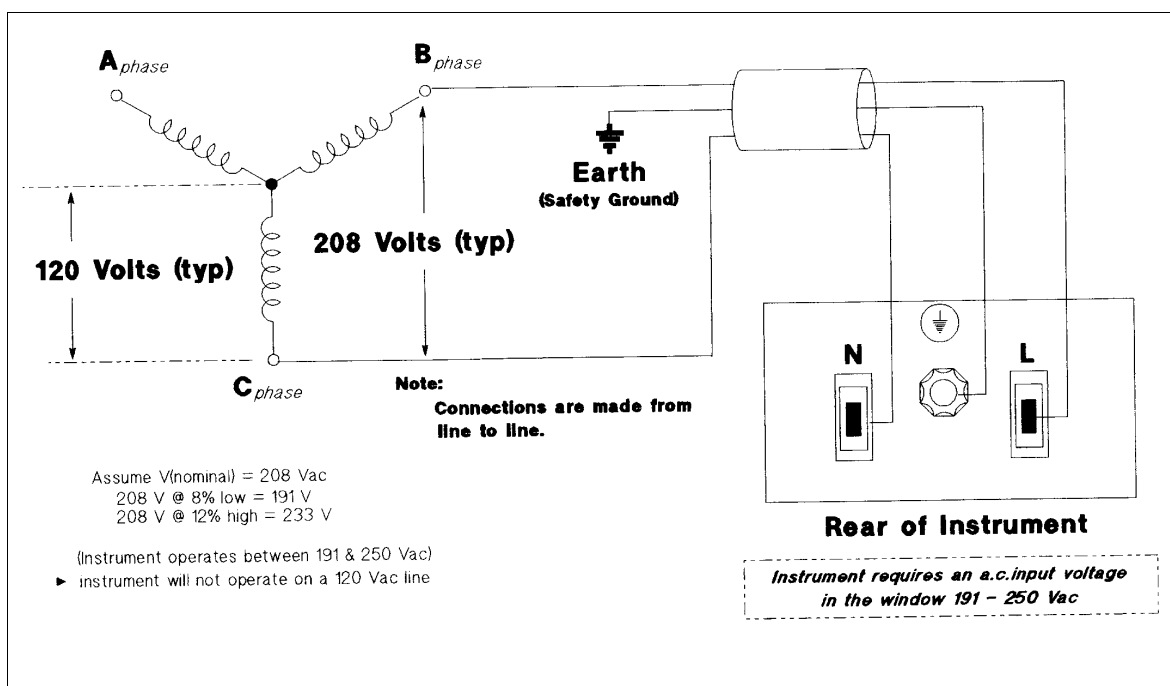

Figure 2-3. 667xA Connection to a 3-Phase Line
1. If they are not already in place, position the strain relief connector (11), safety cover (5), rubber boot (9), and connector nut (8) on the power cord (7).
2. Secure the ground wire (2) to the chassis earth ground stud.
3. For single-phase operation, connect the neutral wire (1) to the **N** input terminal and the line wire (3) to the **L** input terminal (this line is fused inside the supply).
4. For line-to-line operation from a three-phase source as shown in Figure 2-3, connect one phase to the **N** input terminal and another phase to the **L** input terminal (this line is fused inside the supply).